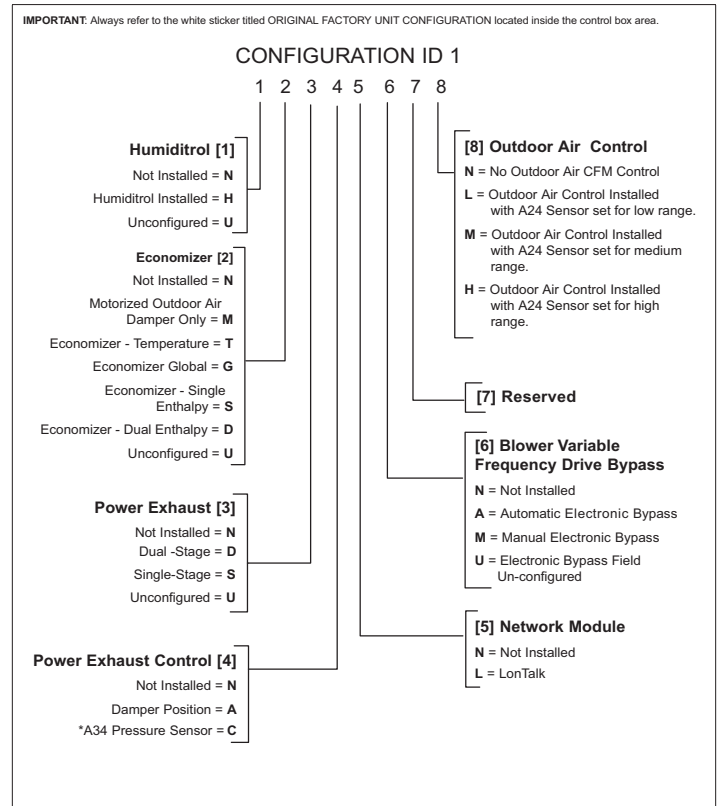
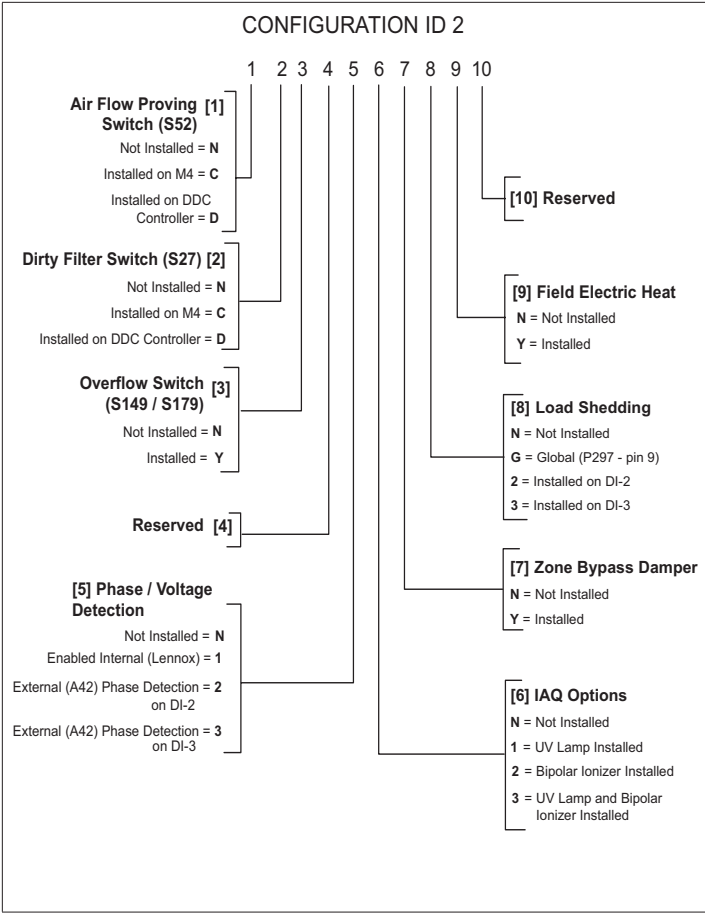

Figure 5. Configuration ID 1
Figure 6. Configuration ID 2
- Model Number (see “Figure 5. Configuration ID 1”) and serial number. Model , serial and catalog numbers are located on the RTU nameplate.
- RTU Information. Configuration ID 1 and 2 can be entered here. See figures “Figure 5. Configuration ID 1” on page 10 and “Figure 6. Configuration ID 2” on page 11 for further details.